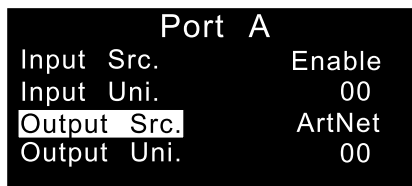

Fig 7.2-3
3. Set the output signal status. Touch  select **Output Src.** to set parameters. Touch  to enter the parameter modification, then Touch  (enter parameter modification) →  or  (set to **ArtNet/sACN** mode or **Disable**, standard mode defaults to **ArtNet** mode. ) →  (save parameter modification), as shown in Figures 7.2-3 and 7.2-4.